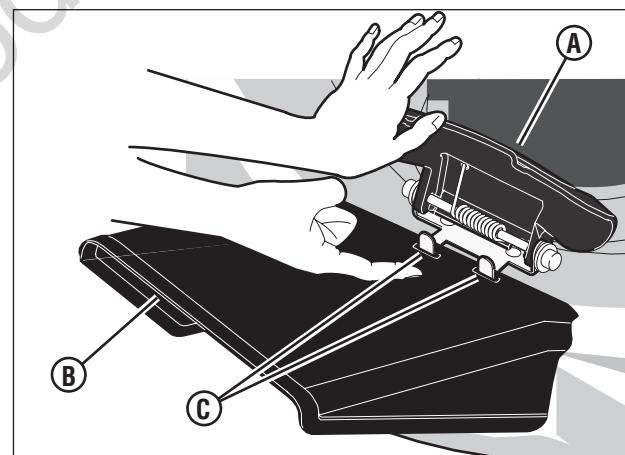

Figure 8: Installing the discharge deflector
1. Raise the mulching cover (A, **Figure 8**).
2. Install the deflector (B) to the deck under the mulching cover, making sure that the locking tabs on the deck (C) go through the slots in the deflector (B).